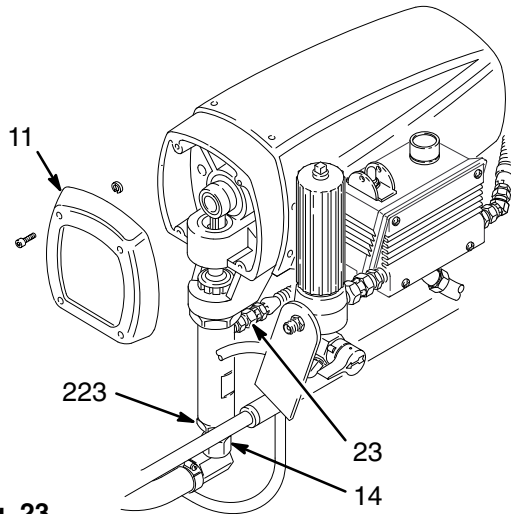

Fig. 23 05214
Displacement Pump Repair (Fig. 23 – 32)
2. Remove the front cover (11). See Fig. 23
3. Unscrew the suction tube (14) from the pump, holding a wrench on the pump intake valve (223) to keep the pump from loosening. See Fig. 23
4. Disconnect the pump outlet hose (23). See Fig. 23